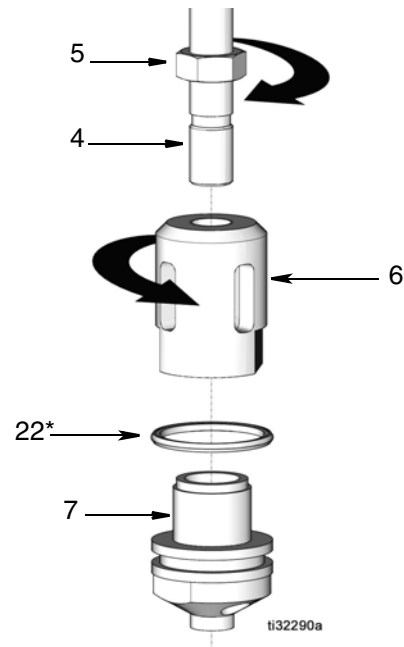

FIG. 11
4. Replace piston seal (22\*) on valve housing piston (7) (FIG. 11).
5. Screw the connecting rod (4) into the valve housing (6) and adjust the ball travel as instructed in **Check Valve Adjustment** on page 12 Tighten nut (5) to 60 ft-lb (81.35 N•m) (FIG. 11).